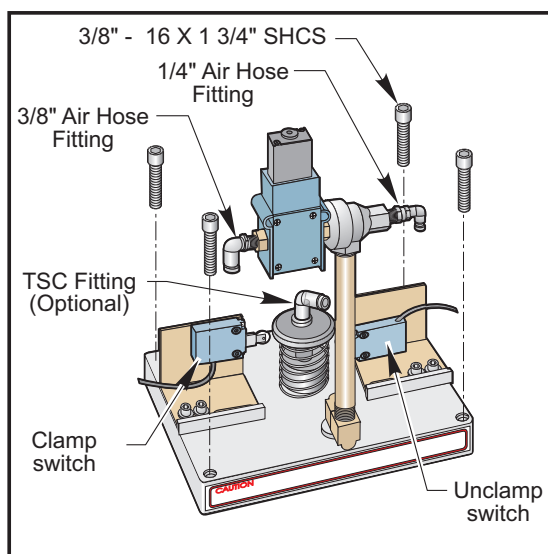

Figure 3.2-1 Tool Release Piston with Optional TSC fitting.
6. Remove the tool release air hose and precharge hose at the fitting shown in Fig. 3.2-1 If machine is equipped with TSC, also remove the coolant hose.